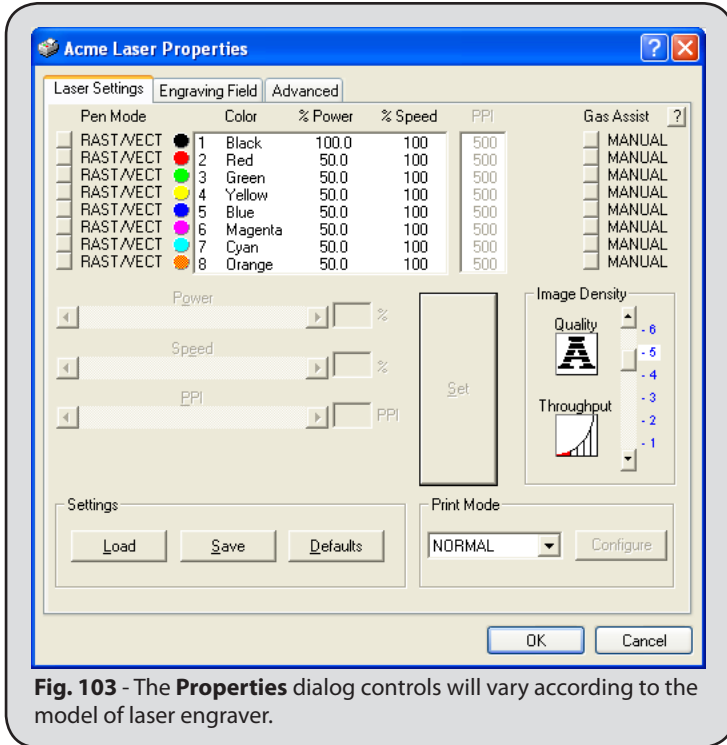

Fig. 103 - The **Properties** dialog controls will vary according to the model of laser engraver.
10. The controls on the **Properties** dialog will vary according to your model of laser engraver (Fig. 103). For specific instructions concerning these controls, please refer to the documentation provided with your laser engraver.